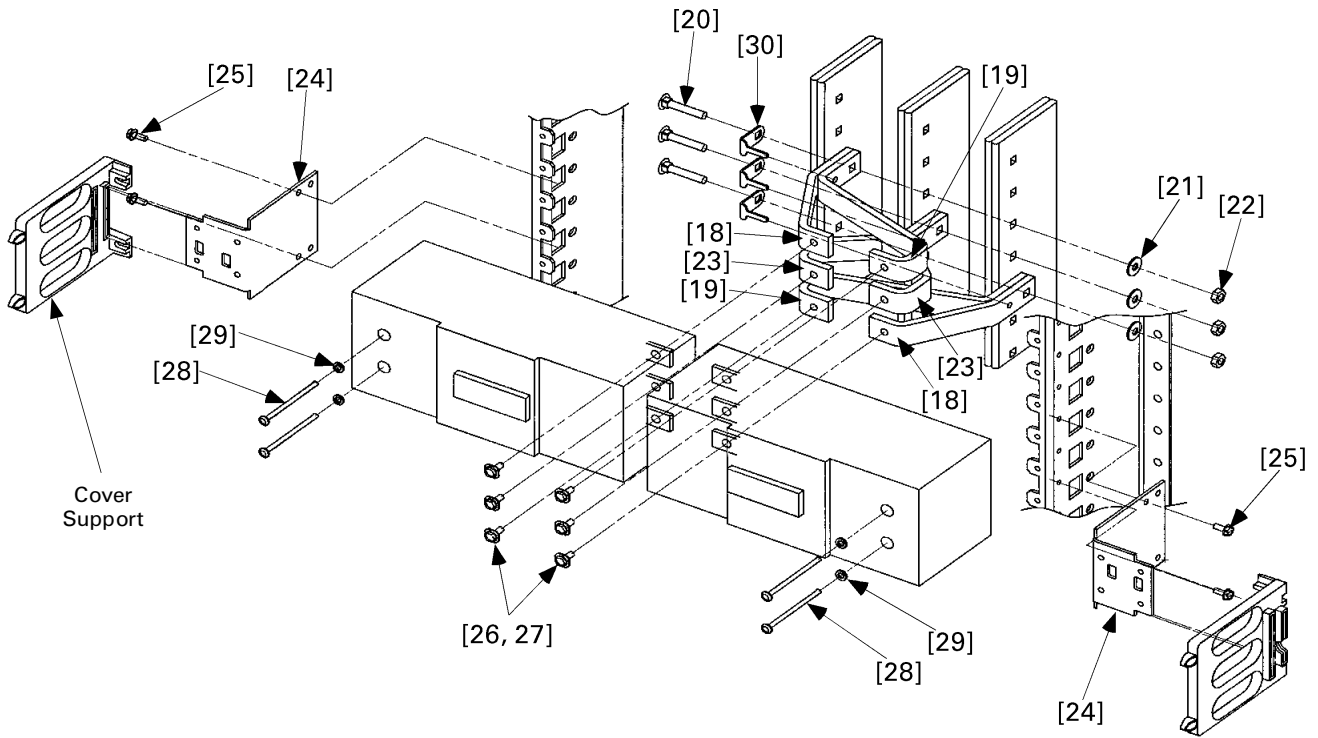
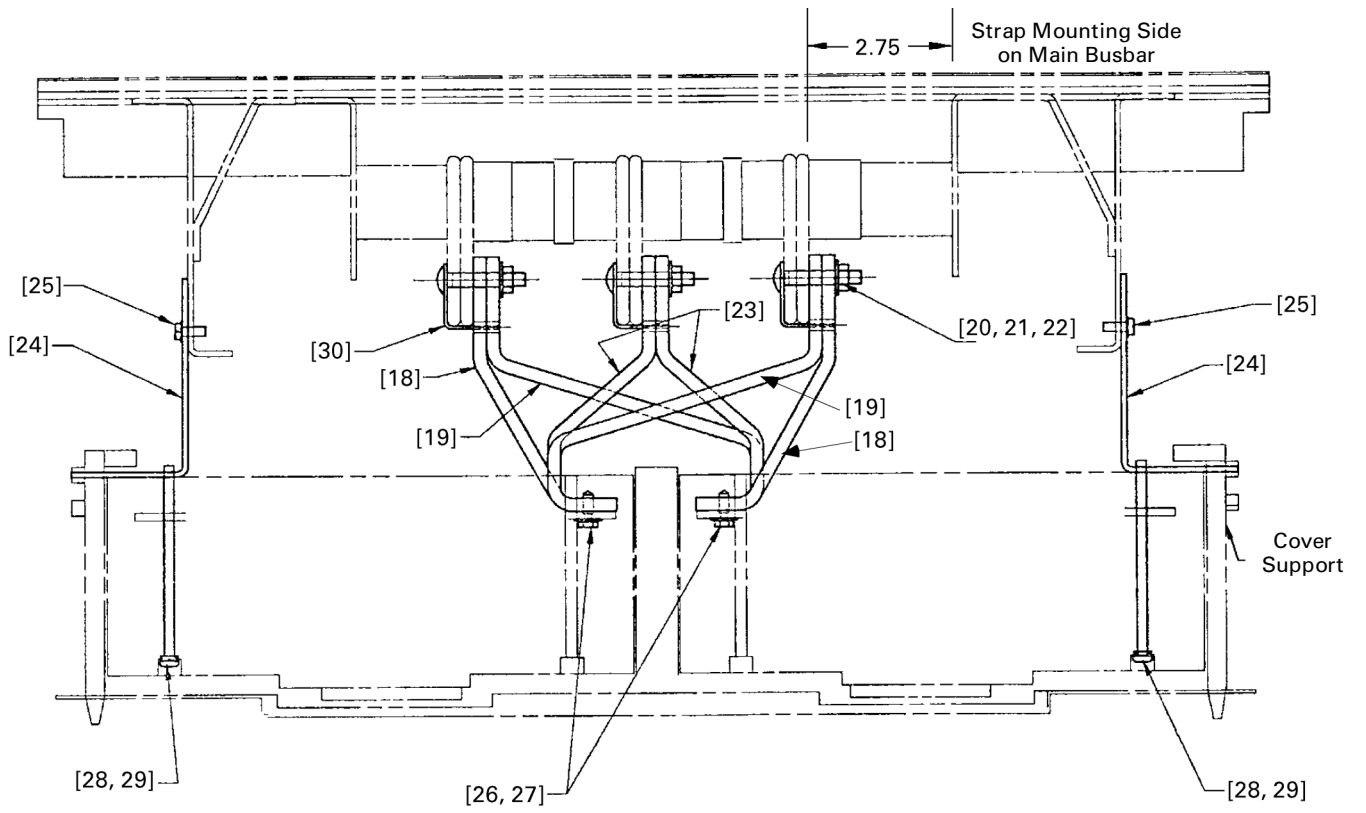

Figure 4. Double bolt-on circuit breaker assembly, exploded view.
Figure 5. Double bolt-on circuit breaker assembly, end view.
**b. Double-branch breakers.** Install the circuit breaker straps beginning with the outermost poles, as shown in Figures 4 and 5. Slide an antiturn clip [30] over the square shank of a carriage bolt [20]. Insert the carriage bolt assembly into the front square hole so that the pin rests on top of the vertical bus.
Align the square hole in the straps [18 & 19] with the carriage bolt [20] and slide it against the vertical bus, so that the pin on the antiturn clip [30] is inserted into the small hole on the strap, as shown in Figures 4 and 5.
Secure the complete strap assembly to the vertical bus with the Belleville washer [21] and nut [22]. Leave the connection finger tight at this time. Repeat the process on the center-pole straps [23] and then install the last straps [18 & 19], as shown in Figures 4 and Figure 5.